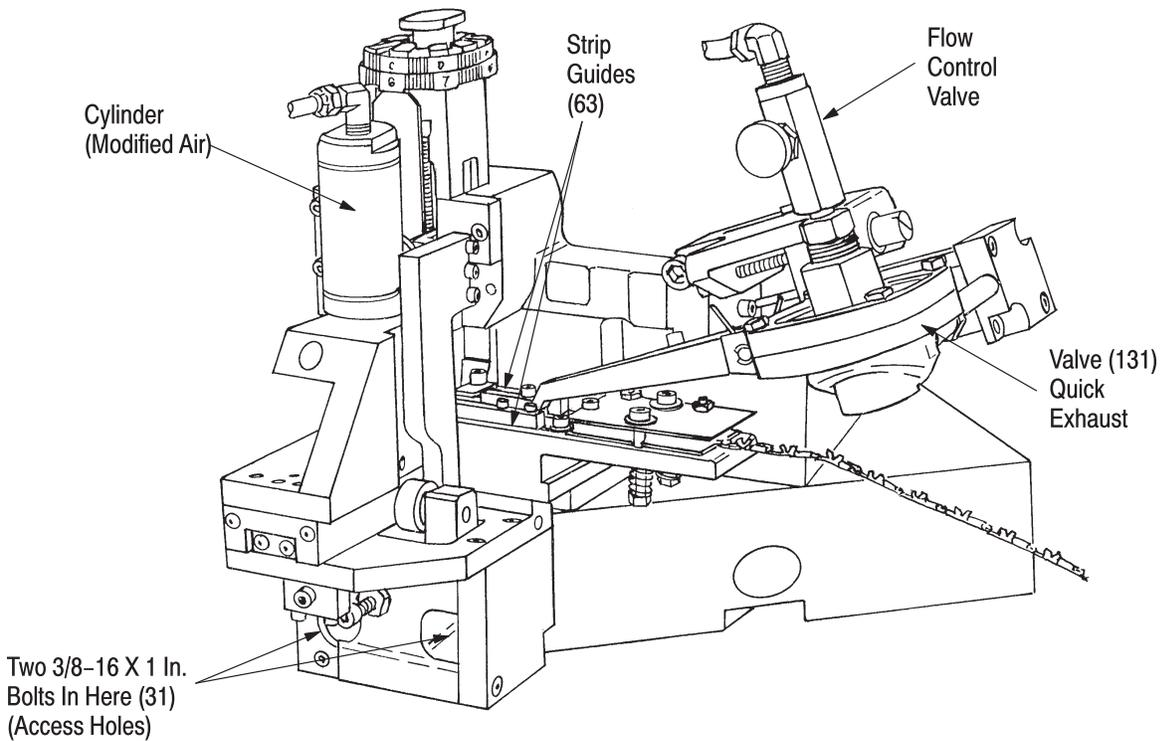

Figure 5
Depress the foot switch to begin the machine cycle. At the beginning of the machine's **downward** stroke, the cam on the "T" unit ram switches the air OFF. When this happens, a spring inside the cylinder retracts the feed finger. The ram continues downward, completes the crimping action, and starts back up again. As it approaches the fully raised position, the "T" unit feed mechanism switches the on-off valve back to the ON position. This supplies air to extend the feed finger and move the next terminal over the anvil. The flow control valve controls the speed of the feed finger stroke. See Figure 5.
6. Bolt the wire pull unit to the "T" unit frame with two 3/8-16 x 1.00 long socket head bolts (item 31, sheet 2 of 4) located in two access holes in Figure 5.
7. Refer to Drawing No. 819528-1, Sheet 4 of 4; connect the air line from port No. 2 of the limit control valve (item 127) to the flow control valve (item 133) on the terminal feed cylinder. Connect the air line from the port labeled "OPEN" on the air solenoid valve (item 134) to the clamping cylinder (item 93), and from the port labeled "CLOSE" to the extend end of the clamping cylinder.
4. Remove socket head bolts (item 31, Figure 5), holding the wire pull unit to "T" unit.